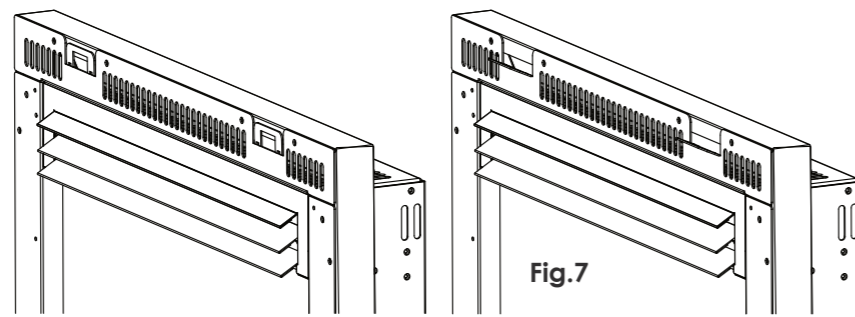

Fig.7
3. Bend the two tabs at the top of the fire forwards to accept the hooks fitted to the fire frame. (Fig.7)